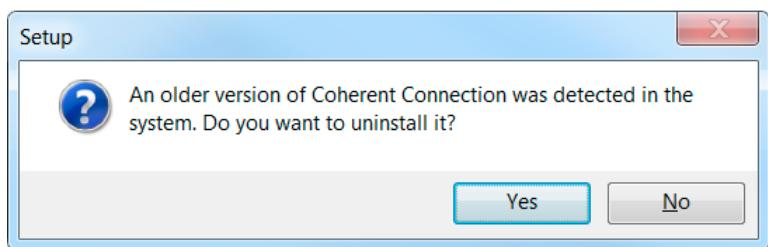

Figure 4-2. Uninstall Old Version of Software
5. If you had previously installed the Coherent Connection software, the message shown in Figure 4-2 is displayed. Click **Yes** to proceed.